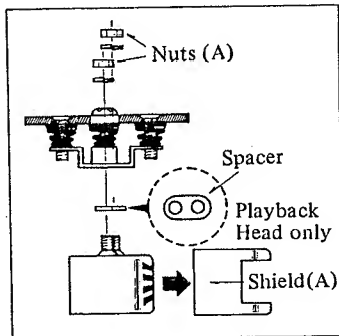

Fig. 6-1 Head Replacement
2. Remove the two screws from the SIMUL-SYNC switch ass'y. (A)
3. Remove two screws holding fiber insulator. (B)
4. Remove two screws holding head mounting plate. (C)
5. Remove two mounting nuts through access slot in head mounting plate. (1 nut for erase head) See Fig. 6-1 on page 9.